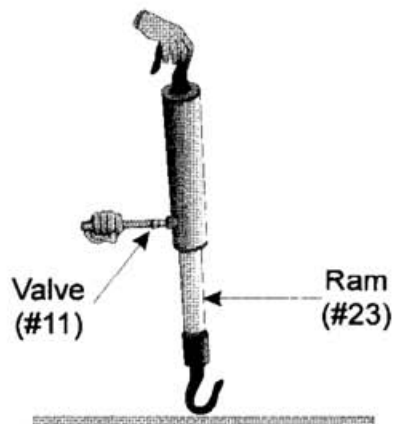

Figure 4 -- Bleeding Ram
Step 2: Press down on the RAM (#23) piston and while depressing the VALVE (11) located inside the Pull-Back Ram COUPLER (#16) as shown in Figure 4. Any trapped air will be slightly pressurized and will be audible when released.